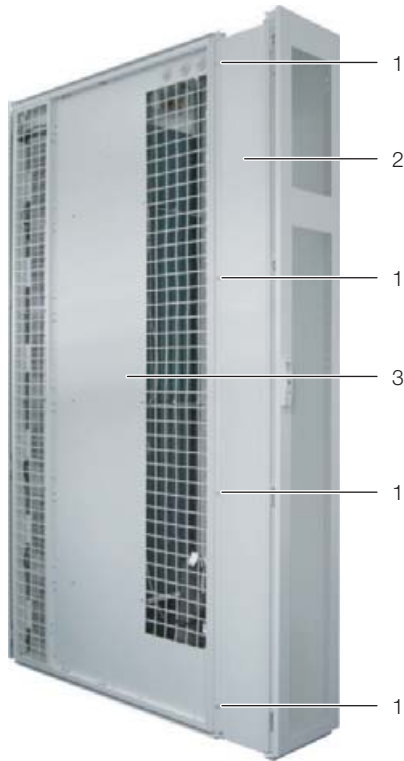

Fig. 26: Adaptor on the LCP Inline
- Attach the adaptor (fig. 26, item 2) to the rear opening of the LCP Inline using four of the supplied screws (fig. 26, item 1) each on the left and right.